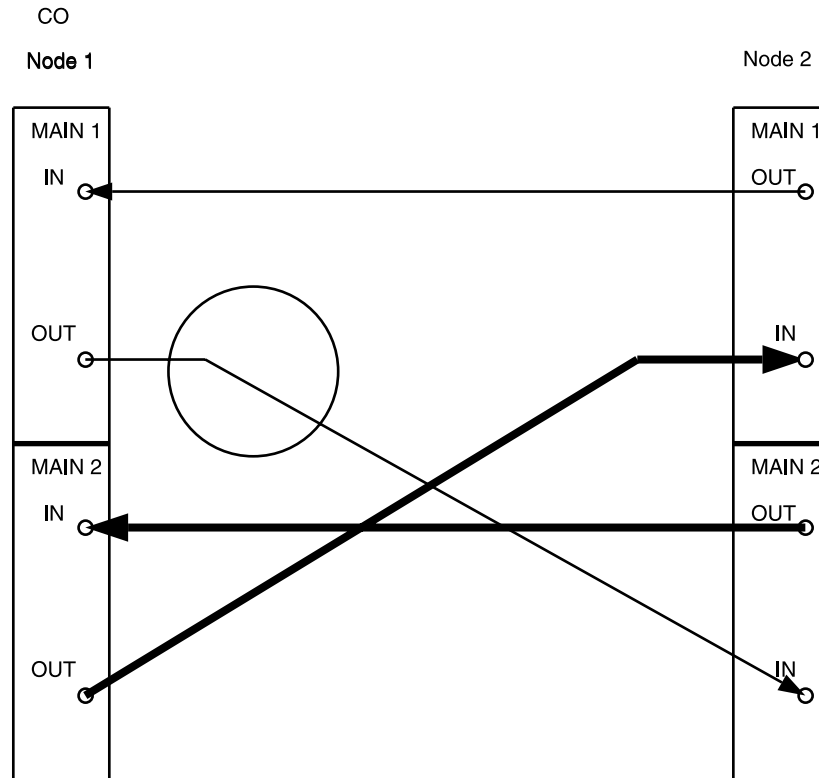

Figure 9 – DDM-2000 OC-3 Drop or Add/Drop Network to Ring Upgrade
19. At Node 1, remove optical splitter from **MAIN 1 OUT**. Connect optical fiber from Node 1 **MAIN 1 OUT** to Node 2 **MAIN 2(P) IN**. (See Figure 9.)